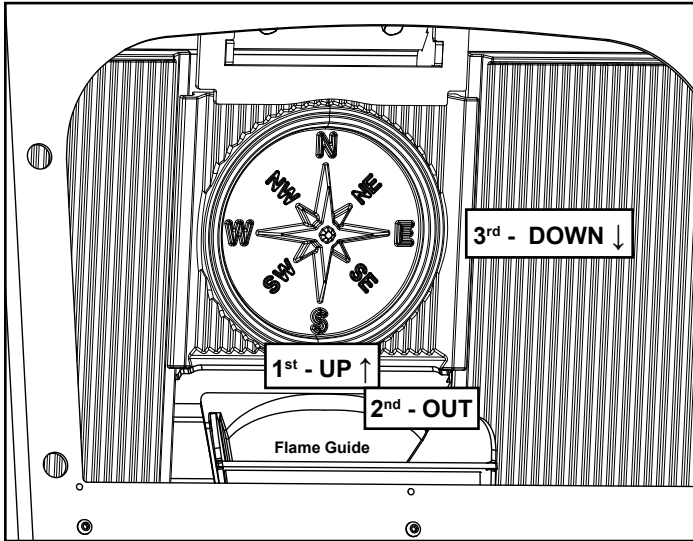

Figure 5.4
3. Pull downward on the corners of the medallion until the top is released from the retainer that keeps the top aligned when in place. Figure 5.4.